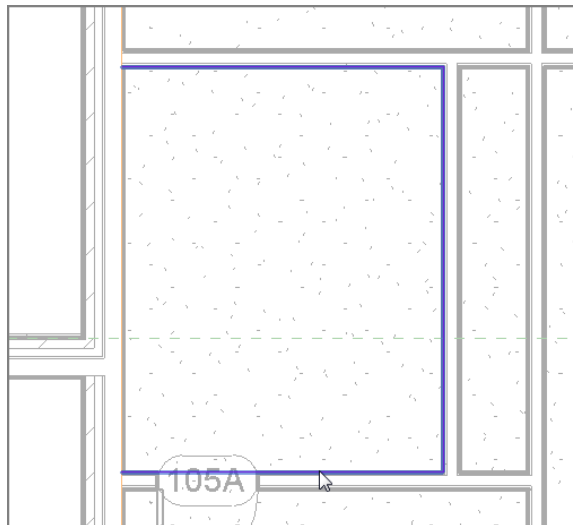

FIGURE 6.42: Placing the three split lines around the perimeter of the lavatory
6. Draw the three lines shown in Figure 6.42 (you may have to trim and extend the lines).